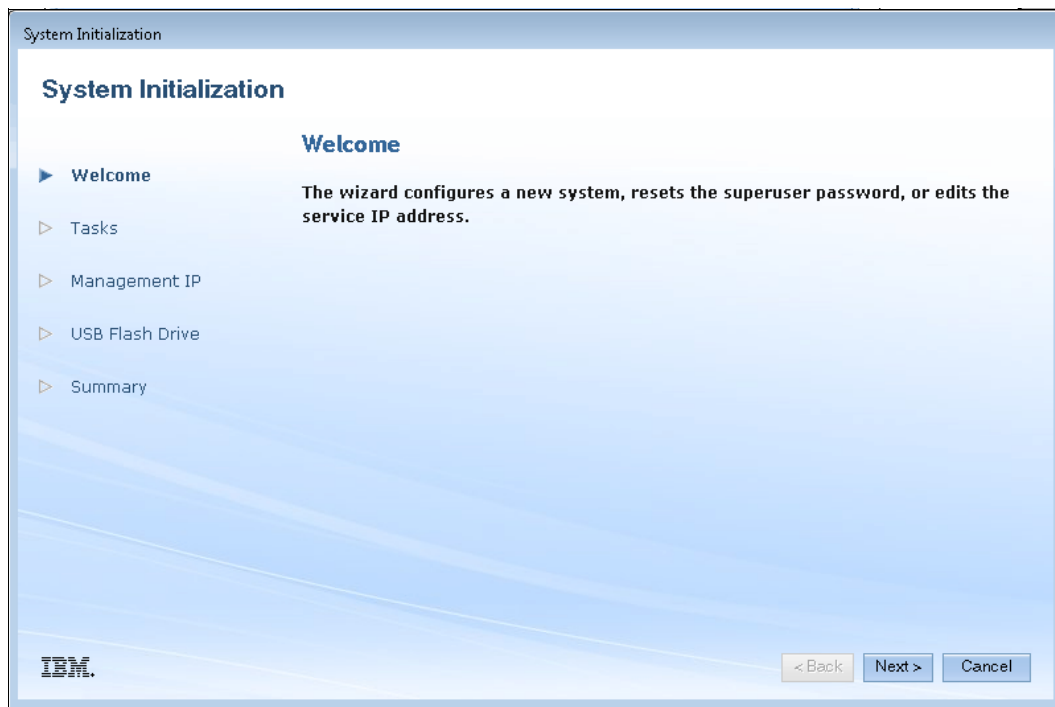

Figure 2-9 System Initialization - Welcome window
1. Plug the USB key into an Windows system and start the initialization tool. If the system is configured to autorun USB keys, the initialization tool starts automatically; otherwise, open My Computer and double-click the `InitTool.exe` file. The opening window of the tool is shown in Figure 2-9. After the tool is started, select **Next** and select Create a new system (Figure 2-9).